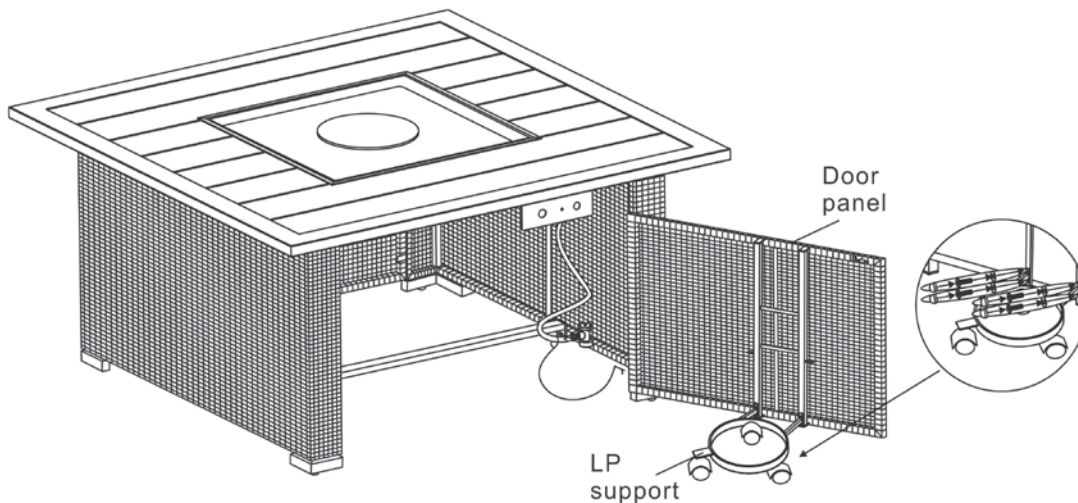

Figure 6
6. Attach the LP support to door panel by using four 1/4"x15 mm bolts and washers (L) as shown in Figure 6. **Do not over tighten.**